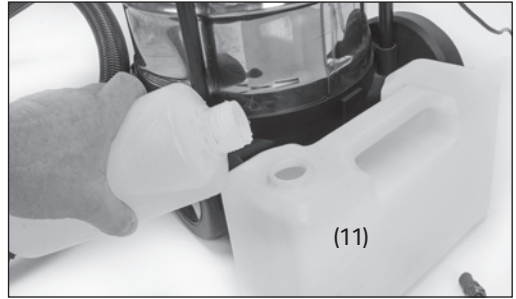

Fig. 18
10.2 Filling the Shampoo Tank (Fig. 18)